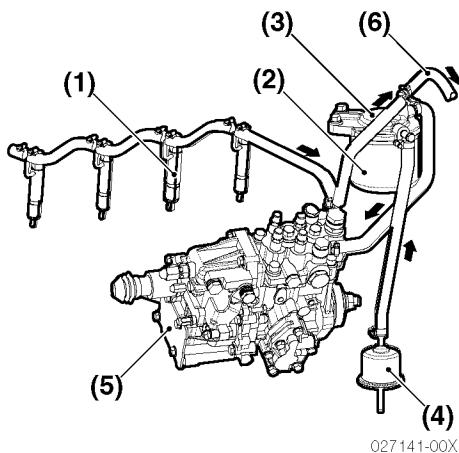

Figure 5
Figure 5 applies to both 4JH5E and 3JH5E.
3. To bleed air from the fuel filter, loosen the hose clamp on the return side fuel hose (**Figure 5, (4)**) at the T-joint. Remove the hose.